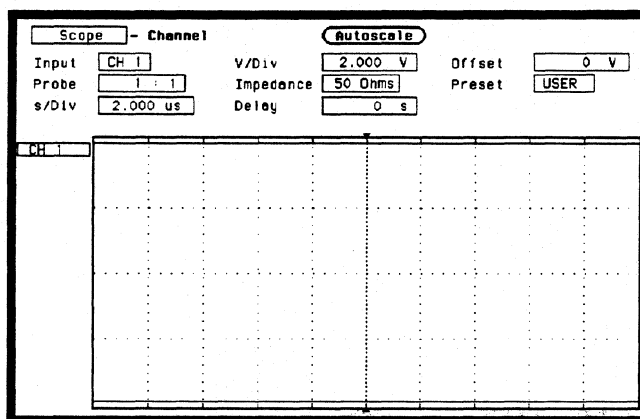

Figure 3-63. Channel Menu Configuration
- Set **Input** to **CH 1**, **V/Div** to **2 V**, **Offset** to **0 V**, **Probe** to **1:1**, **Impedance** to **50 Ohms**, and **s/Div** to **2.0 us** as in figure 3-63.